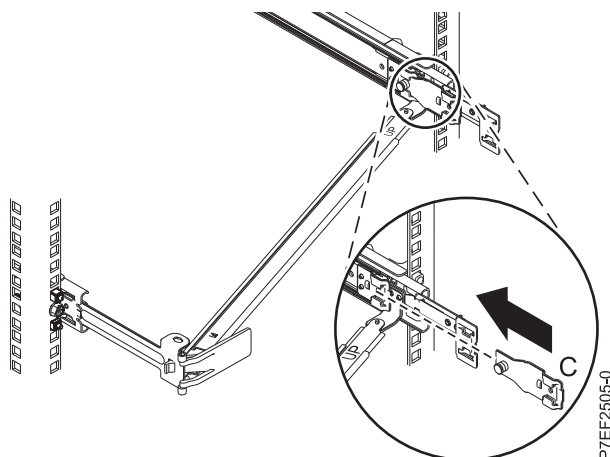

Figure 13. Installing the mounting bracket into the slide rail
6. Attach the cable-management stop bracket (**B**) to the slot on the inside of the left slide by sliding the stop bracket (**B**) into the slide rail until the spring-loaded pin snaps into place. For details, see Figure 13 on page 11.